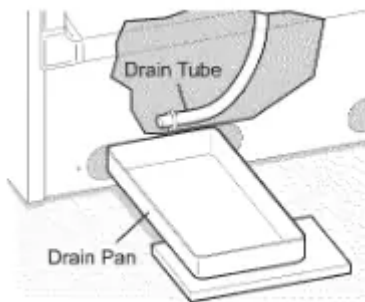
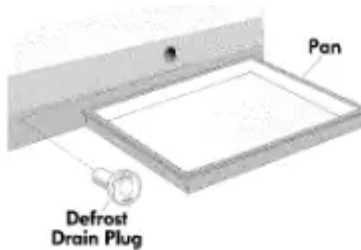

Figure 1
Figure 2
- Place a shallow pan under the drain tube. Defrost water will drain out. Check the pan occasionally so water does not overflow (see figure 1).
- Place a shallow pan beneath the drain outlet. Pull out the outside drain plug (see figure 2). A 1/2 inch garden hose adapter can be used to drain the freezer directly into a floor drain (see figure 3). If your model is not equipped with an adapter, one can be purchased at most hardware stores.
- Place a shallow pan or the Divider/Drain Pan (if equipped) beneath the drain outlet. Pull out the outside drain plug (see figure 1). A 1/2 inch garden hose adapter can be used to drain the freezer directly into a floor drain (see figure 2). If your model is not equipped with an adapter, one can be purchased at most hardware stores.